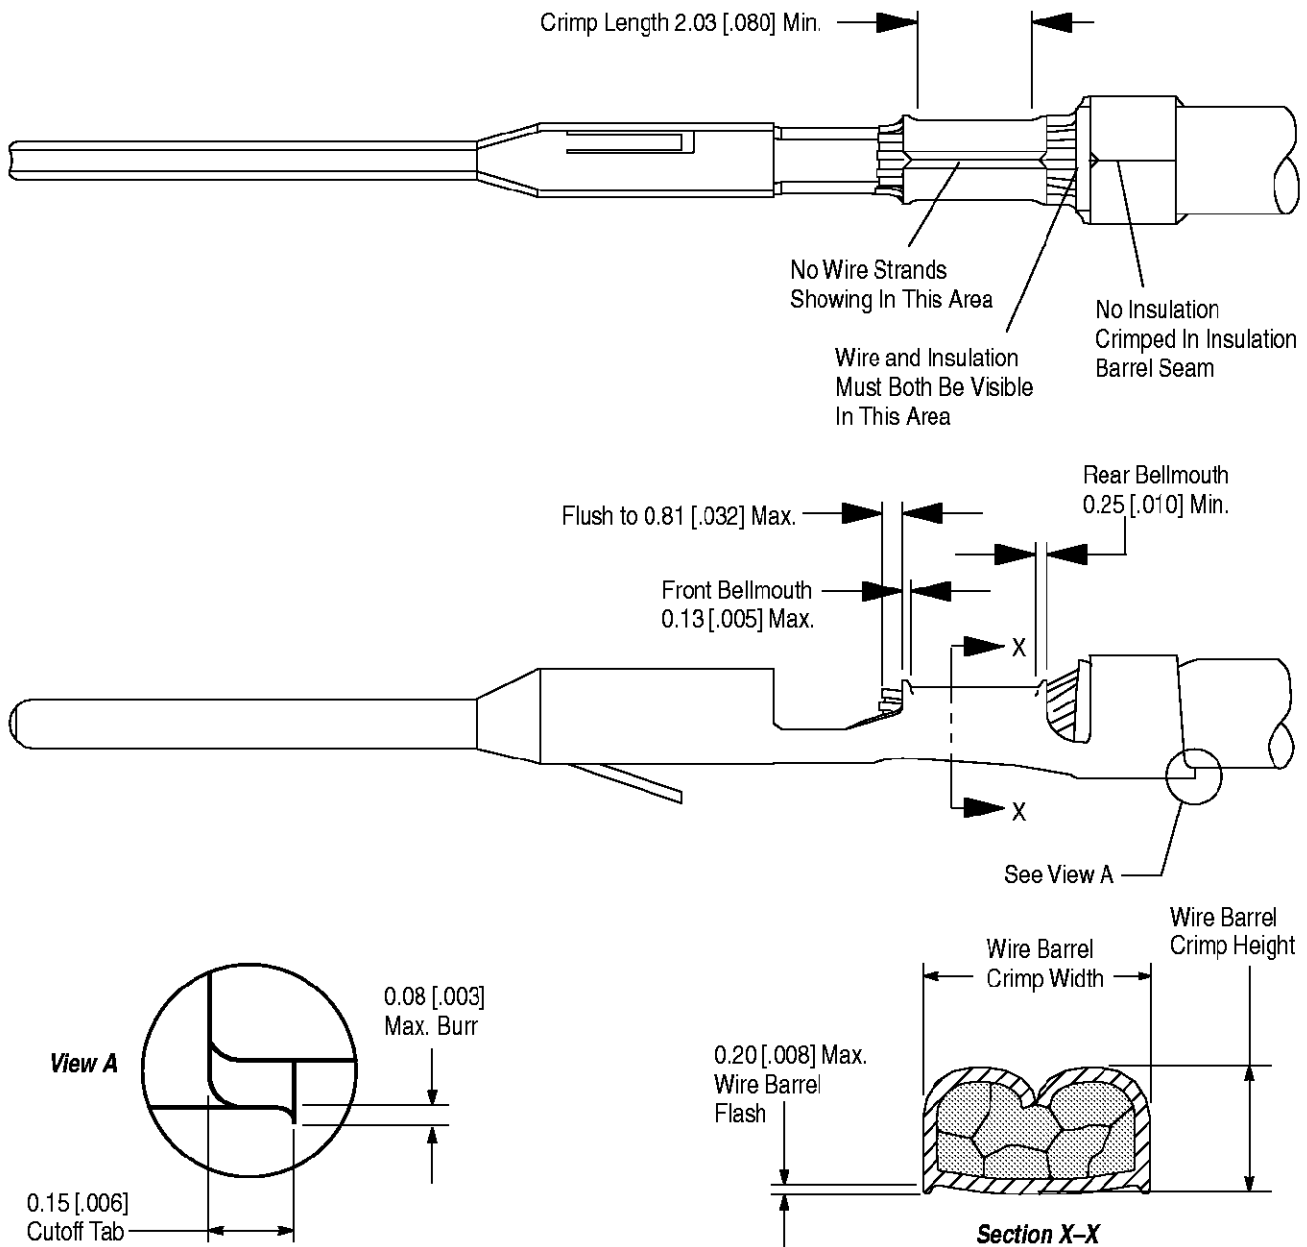

Figure 3
- Changed wire crimp length in Figure 3 from .085 to .080
A typical contact is shown as it should appear after crimping in Figure 3.
For optimum crimp effectiveness, the crimp must be within the area shown and must meet the crimp dimensions provided in Figure 3. Effective crimp length shall be defined as that portion of the wire barrel, excluding bellmouth(s), fully formed by the crimping tool. Instructions for adjusting, repairing, and inspecting tools are packaged with the tools. See Section 5, TOOLING.
Front and rear bellmouths shall be evident and conform to the dimensions given in Figure 3.
The cutoff tab shall be cut to the dimensions shown in Figure 3.
The cutoff burr shall not exceed the dimensions shown in Figure 3.
The conductor may extend beyond the wire barrel to the maximum shown in Figure 3.